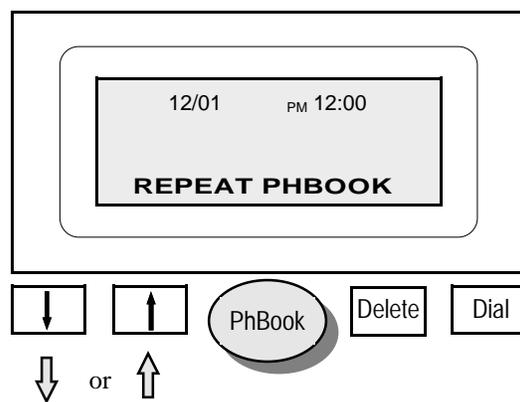

Figure 3
3. The LCD screen will display “REPEAT PHBOOK” (figure 3).